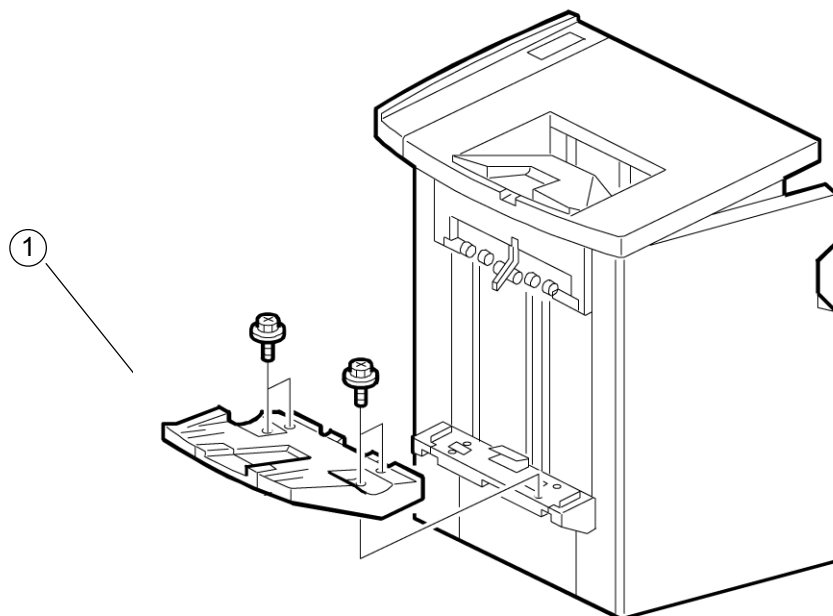

Figure 8
6. Remove the shift tray (1) from the printer by removing four 5.5 mm screws, figure 8.
7. Take the shift tray plate (2) with the four counter holes and install it on the printer with four 5.5 x 6 mm counter screws (from the installation kit),